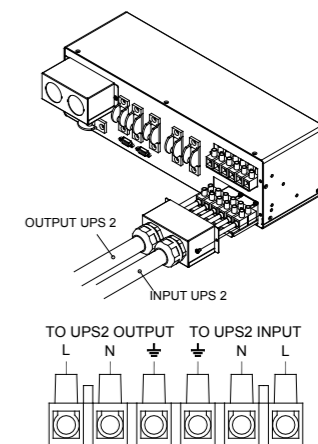

Fig. 4
- Attach the cable glands to the cable entry box of UPS2. Unscrew and pull out the tray of UPS2 terminal block from the enclosure. Insert the cables through the cable glands and then insert the leads of the cables into the terminal blocks of UPS2 and fasten screws. See Fig. 4.